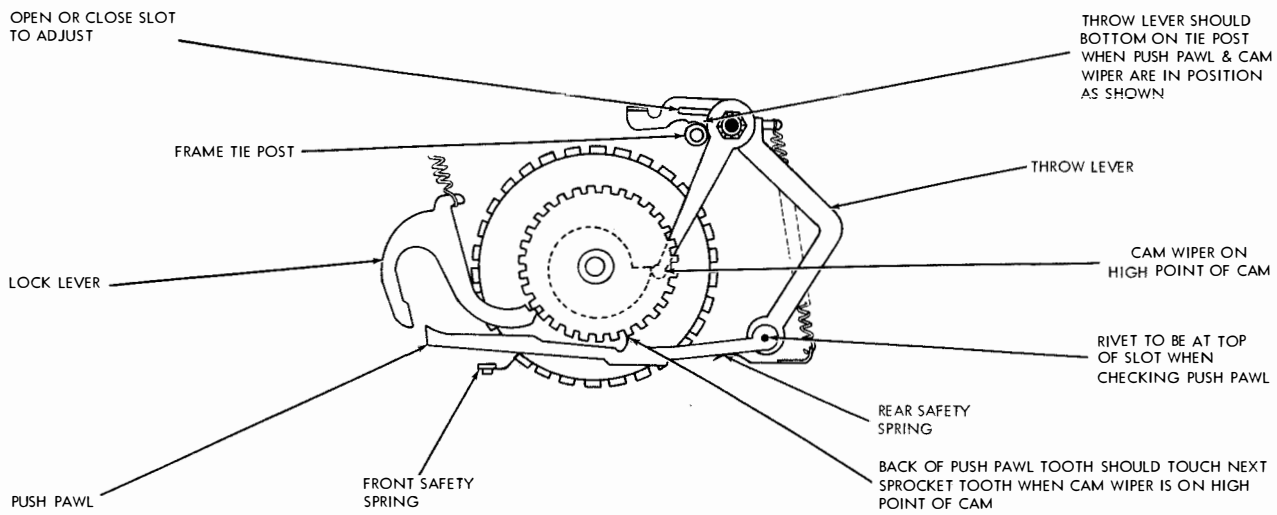

Figure 7-16. Feed Tooth
(3) **HOUR AND MONTH FEED TOOTH.** (See figure 7-16.)—The back of the tooth on the hour and month push pawls should touch the next sprocket tooth when the cam wiper is on the high point of its cam.